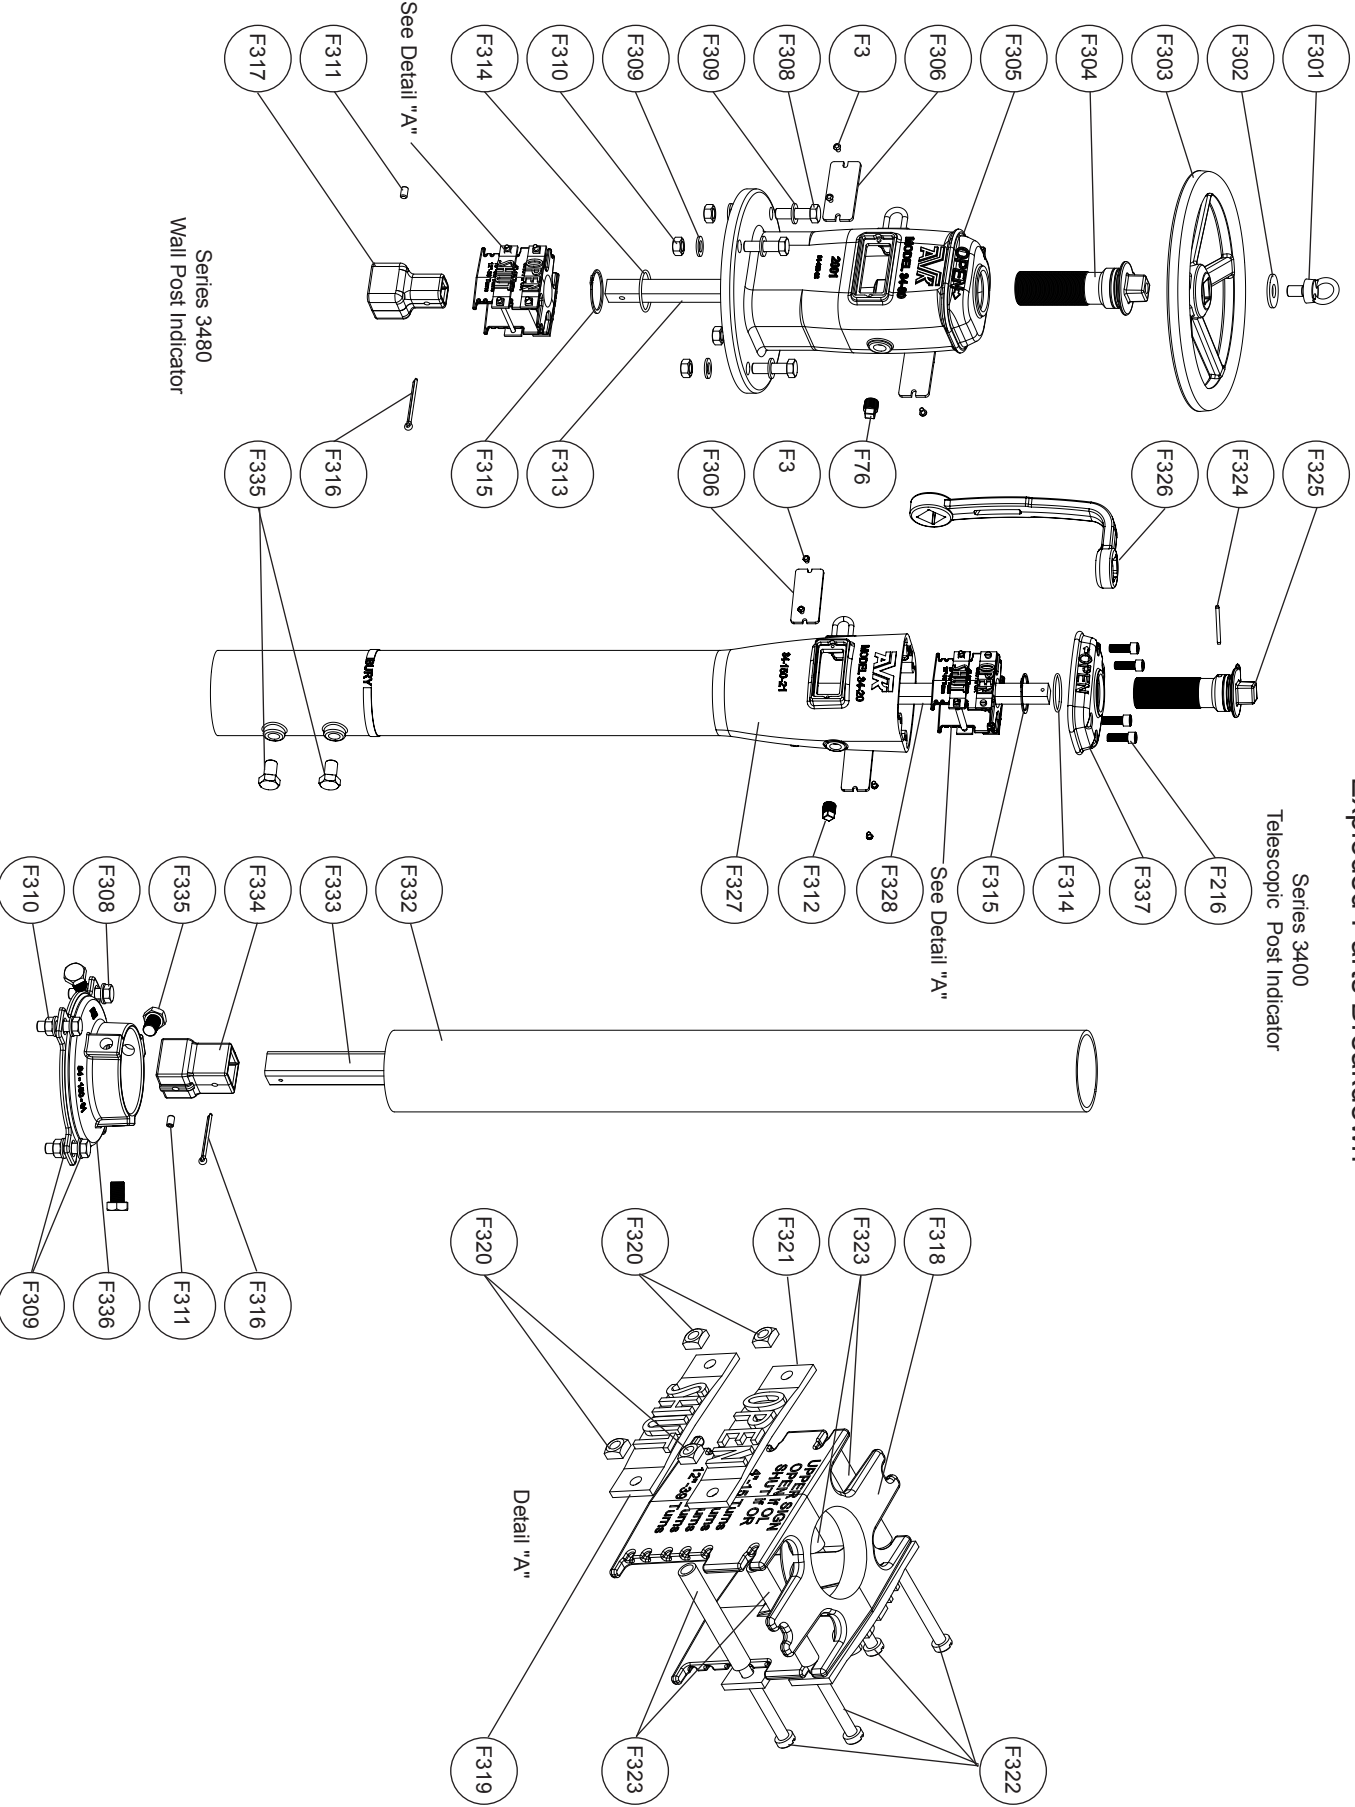

Fig. 1
1. Remove the four sets of Attachment Bolts/Washers/Nuts (F308, F309, F310) using a 15/16" (24mm) wrench. (See Fig. 1)